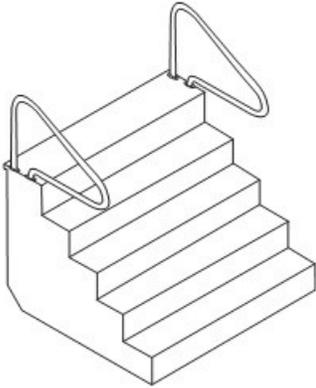

FIGURE 702.5
*Type E* protruding in-pool stairs shall be in accordance with Sections 702.5.1 through 702.5.7. See Figure 702.5.
Type F recessed in-pool stairs shall be in accordance with Sections 702.6.1 through 702.6.7. See Figure 702.5.